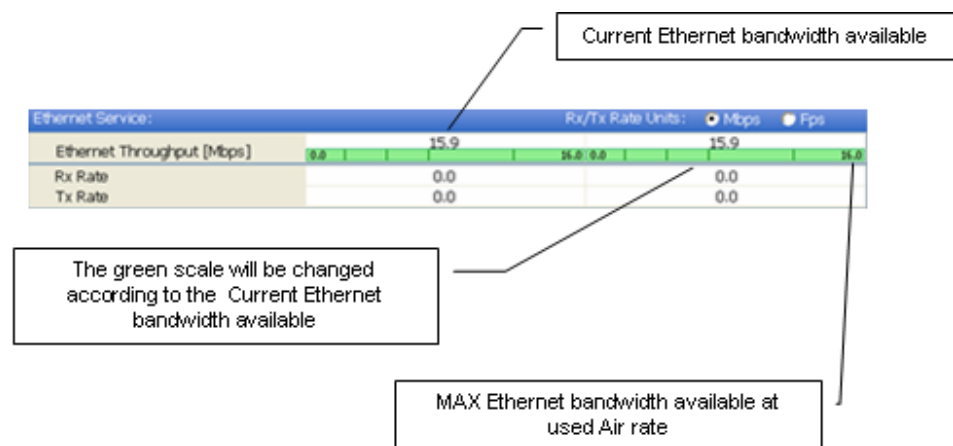

Figure 4-7: Ethernet Bandwidth Indication
- Current Ethernet bandwidth in Mbps. This is not the actual traffic rate, but the maximum capacity (Net symmetrical Throughput "Full-Duplex") that can be supported currently, (see *Figure 4-7*).